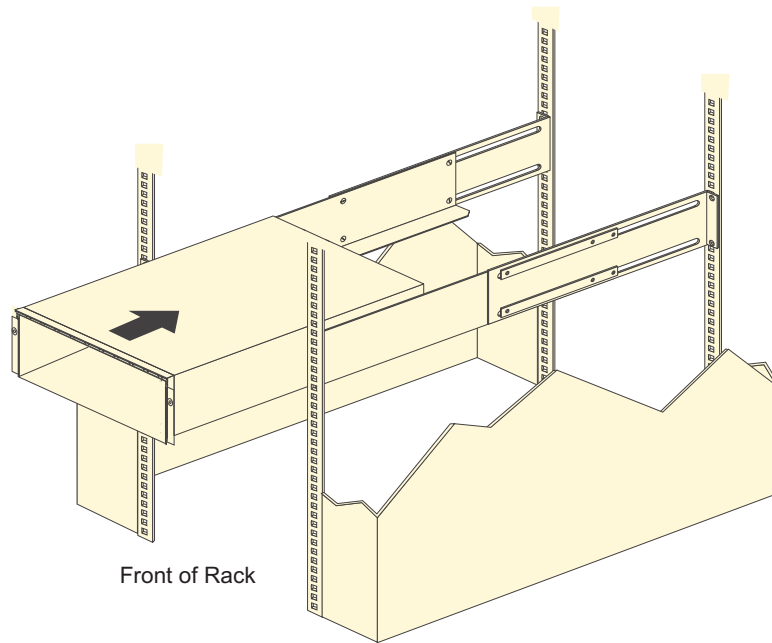

Figure 18. Installing the DS3950
- b. With help from another person, place the back of the storage subsystem on the support rails, and then slide the unit into the rack as shown in Figure 18 on page 39.